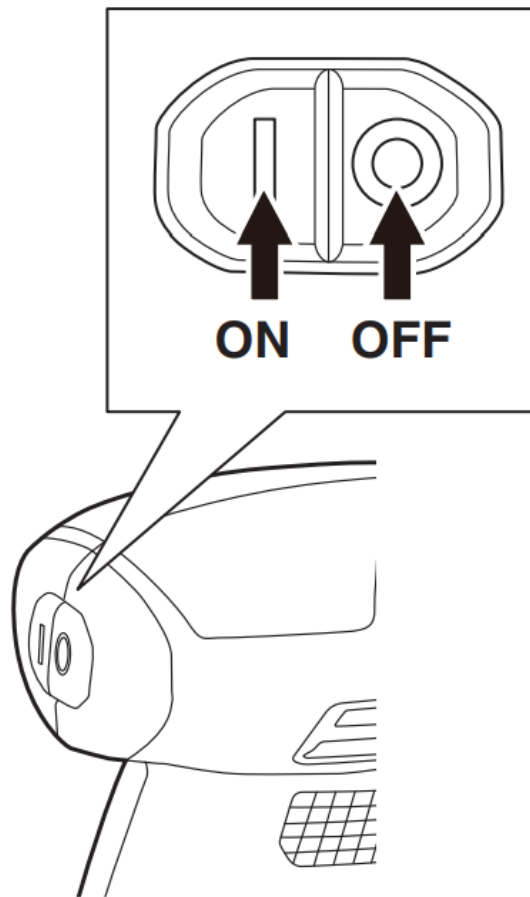

Fig. 13
3. Switching the sander ON and OFF (Fig. 13) The power can be turned on by setting the switch to ON (I) and turned off by setting the switch to OFF (0).